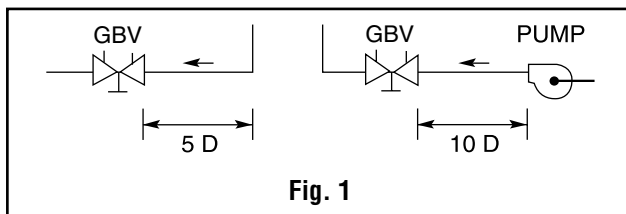

Fig. 1
3. To ensure accuracy of measurement Circuit Balancing Valves (GBV's) should be located at least five pipe diameters downstream from any fitting and at least ten pipe diameters downstream from a pump (as illustrated in Fig. 1).